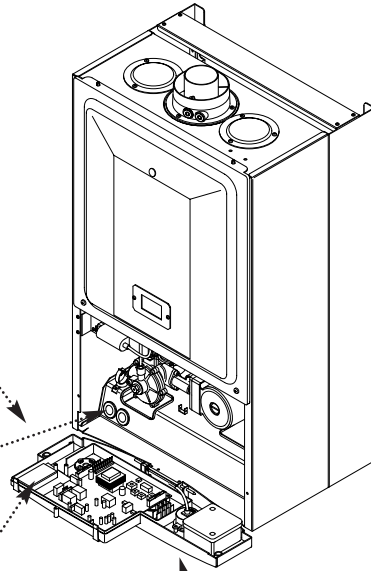

Fig. 35
2. Undo the screws securing the facia panel and hinge it down (Fig. 35).